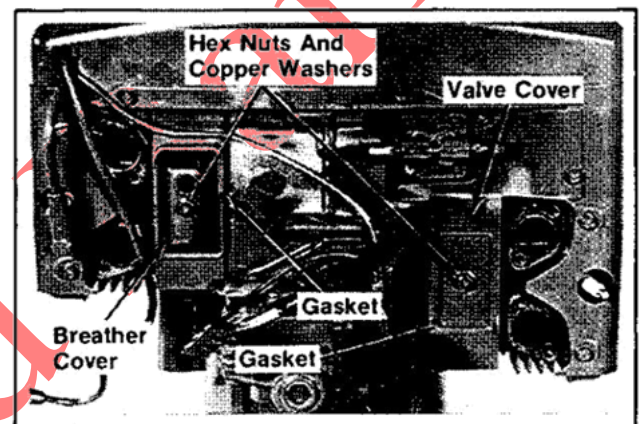

Figure 11-48. Installing Breather Cover And Valve Cover.
3. Install the gasket, breather cover, copper washer, and hex nut. Make sure the hole in breather cover is positioned above the hex nut (towards blower housing). Refer to Figure 11-48.
1. Install the gasket, valve cover, copper washer, and hex nut. Refer to Figure 11-48.